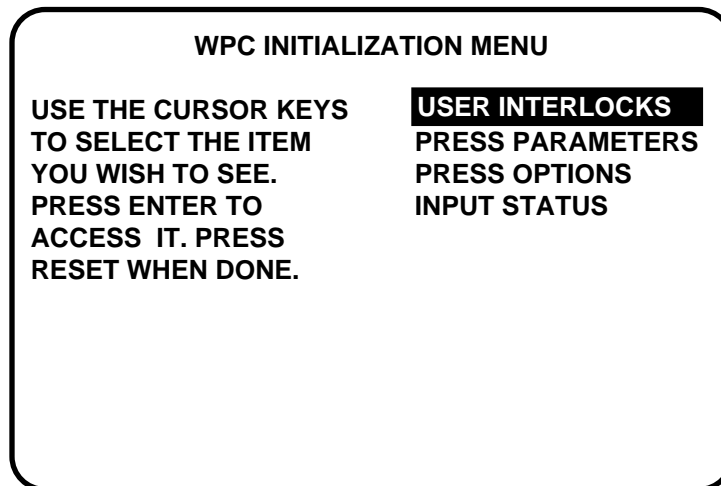

Figure 7-8. WPC Initialization menu
2. Select “Press Control.” The WPC Initialization menu, Figure 7-8, appears on the screen.